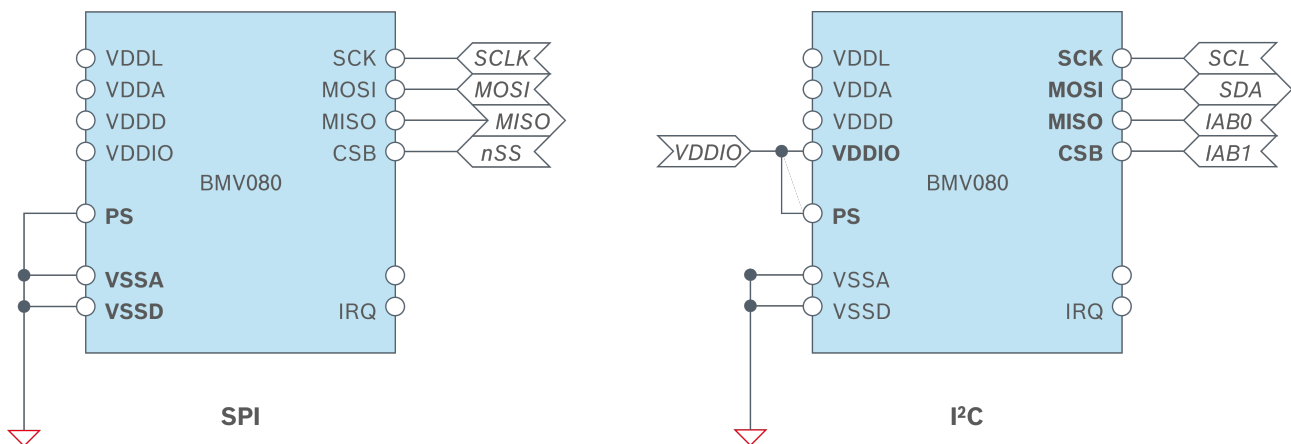

Figure 24: Different configurations for protocol selection (SPI / I²C)
The protocol select (PS) pin is a logic input to configure the type serial interface, SPI, or I²C. Figure 24 shows how the PS pin can be connected to select the SPI or the I²C protocol. The SPI protocol is selected when this pin is connected to a logic low (VSSD). If this pin is connected to a logic high (VDDIO), the I²C protocol is selected. If this pin is not connected (not recommended), the I²C protocol is selected. The pin state is latched during power-up by the digital core.